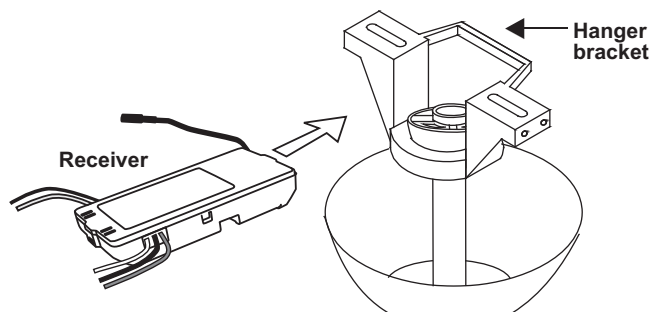

Figure 7
1. Insert Receiver into Hanger Bracket with the flat side of the Receiver facing the ceiling. (Fig. 7)